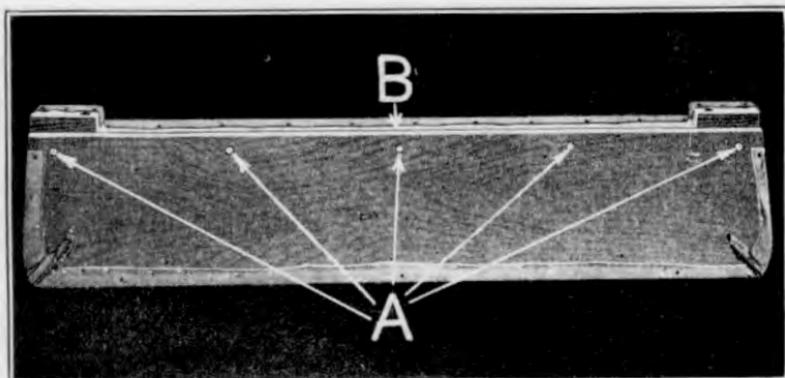

Fig. 572
- 1269 Place spacer board on a flat surface with the bottom side up and run out the five wood screws (see "A" Fig. 572) which hold spacer block to board. Spacer block "B" can then be removed.
- 1274 Assemble spacer board block to spacer board by running in the five wood screws (see "A" Fig. 572) which hold block to board.